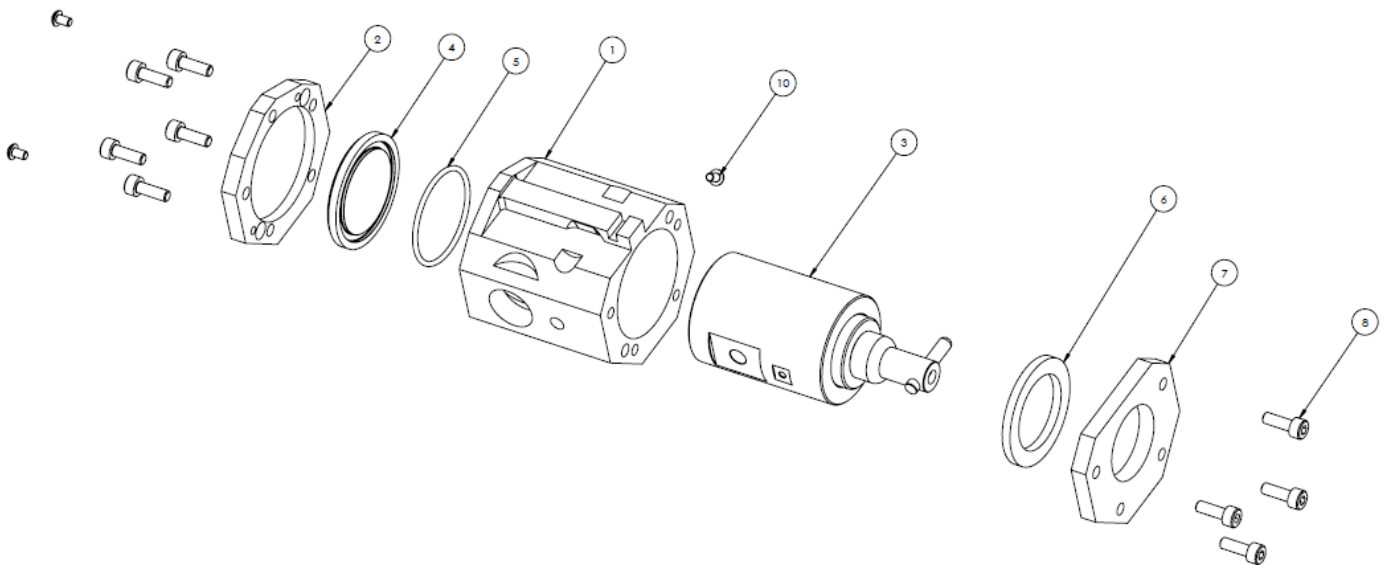

Figure 7.5 HD+ Pump Module Exploded View
7.4.5 Assembly/Disassembly Procedures (Refer to Figure 7.5)
7.4.5.2 Piston Entry Cap and Seal Spacer (Figure 7.5 Items 7, 6)
1. Position seal spacer (6) against end of ceramic cylinder and cover with the piston entry cap (7), tighten four M4 socket head cap screws (8).
7.4.5.3 End Cap, End Cap Seal and O-Ring (Figure 7.5 Items 2, 4, 5)
- Position O-ring (5) in end cap seal (4) and position in end cap (2) as shown in Figure 7.5.
- Position end cap (2) on pump case (1) and tighten five M4 socket head cap screws (8).
7.4.5.4 Piston and Cylinder Set (Figure 7.5 Item 3)
The illustrated parts breakdown (Table 7.3) contains the information required for identifying and ordering parts for the Pump Module. See Figure 7.5 for exploded view and drawing index numbers.